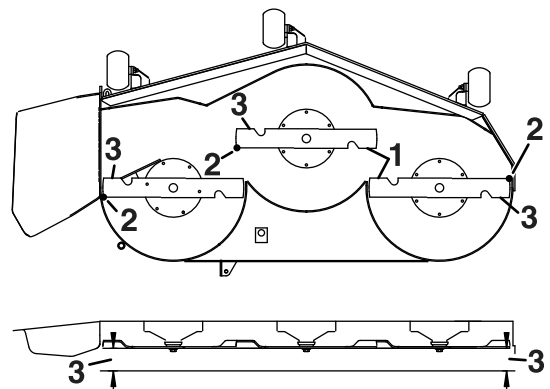

Figure 73
4. Measure between the outside cutting edges and the flat surface (Figure 73).